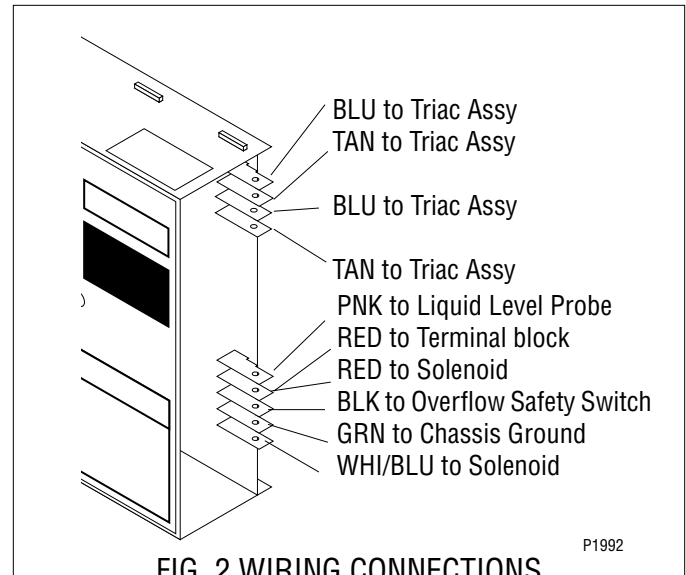

FIG. 2 WIRING CONNECTIONS
5. Connect the TAN and BLU wires with spade terminals of the new assembly to the electronic control assembly, FIG. 2.